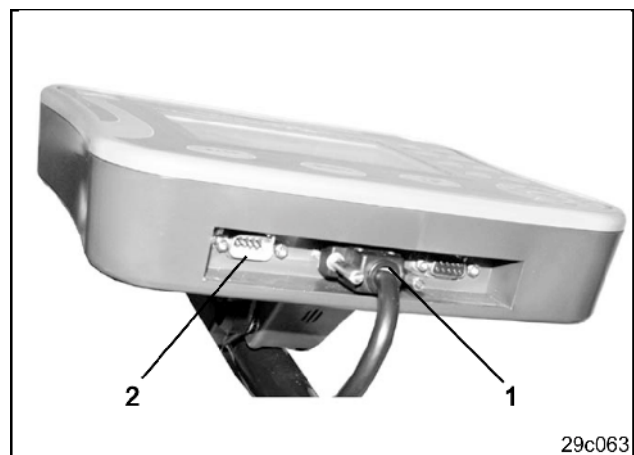

Fig. 4
- Insert the plug of the intermediate cable (Fig. 3/5) into the central 9-pin Sub-D socket (Fig. 4/1).
- The serial interface socket (Fig. 4/2) allows an additional connection to a GPS-terminal.